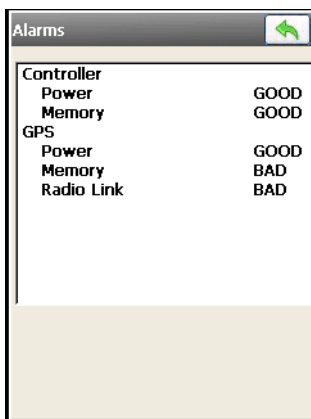

Figure 3-98. Checking Status
- **Check** – pressing this button checks the status of selected situations for the instruments being used (Figure 3-98).